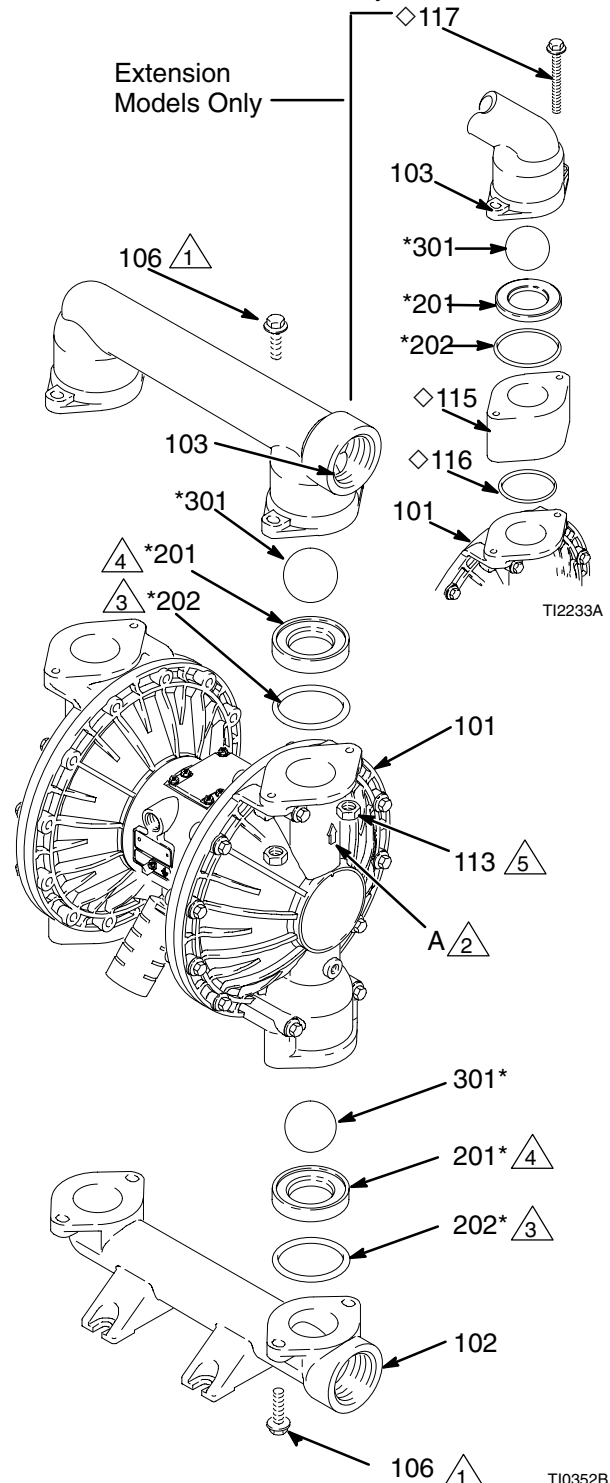

Fig. 10
3. Using a 10 mm socket wrench, remove the four bolts (106) holding the outlet manifold (103) to the fluid covers (101). See Fig. 10.
4. Remove the seats (201), balls (301), and o-rings (202) from the manifold.
2. Reassemble in the reverse order, following all notes in Fig. 10. Be sure the ball checks are assembled **exactly** as shown. The arrows (A) on the fluid covers (101) **must** point toward the outlet manifold (103).